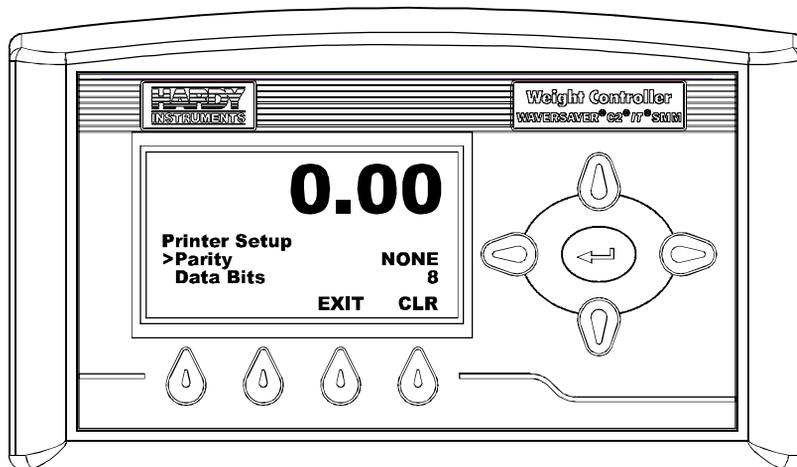

FIG. 93 PRINTER SETUP MENU/SELECTING PARITY
- Step 8. Press the Down Arrow button until the cursor is in front of Parity. (See Fig. 93)